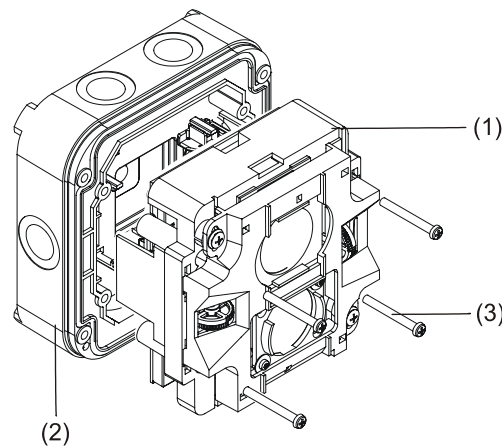

Fig. 2
1. Place the detector unit (Fig. 2, [1]) with the LED pointing downwards into the base (Fig. 2, [2]).
2. Fix the detector unit in the base using 4 screws (Fig. 2, [3]).
The screws (Fig. 2, [3]) must be tightened as far as possible!